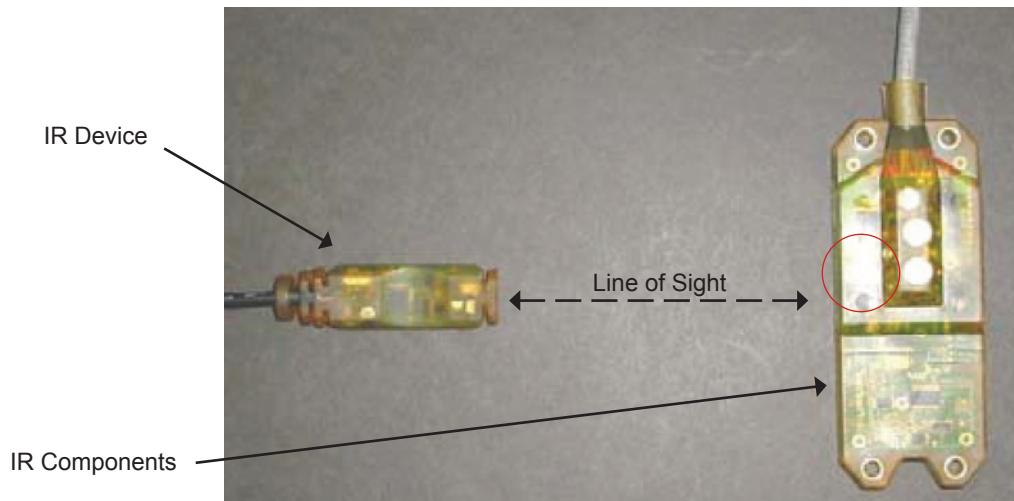

Fig. 5: Infrared (IR) Devices
Smart Valve can communicate externally via infrared (IR) technology. The control module has an onboard emitter and receiver (see Fig. 5 below).